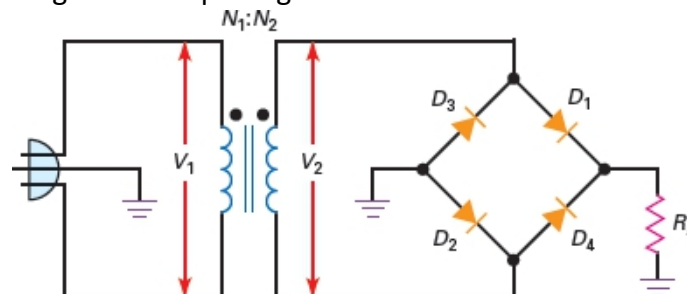

Figure-45 Bridge rectifier
- Figure-45 shows a bridge rectifier circuit. The bridge rectifier is similar to a full-wave rectifier because it produces a full-wave output voltage.